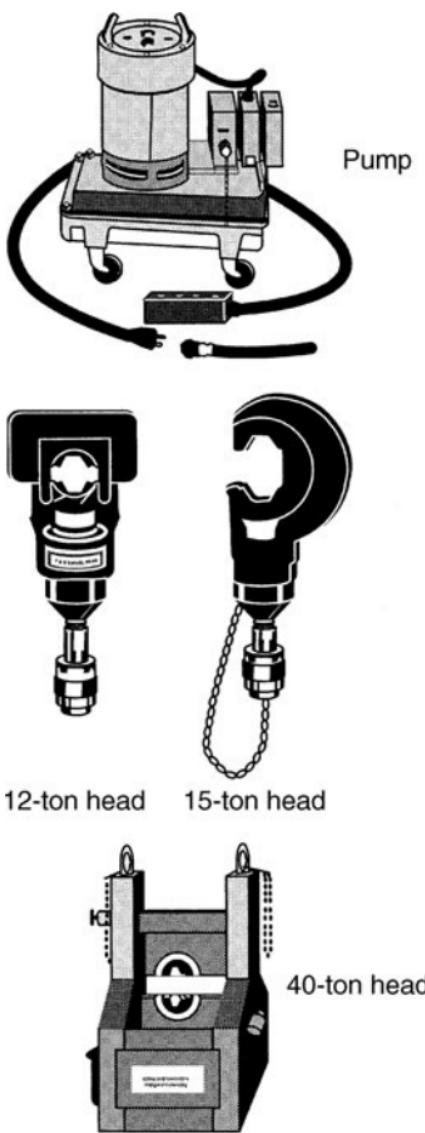

FIGURE 1-7. Aluminum connector tool.
Hydraulic pumps for aluminum connector tools come in many sizes. Figure 1-7 illustrates a typical pump. It weighs only 95 pounds and operates on 120 volts AC. It has a 1-horsepower motor that can pump 115 cubic inches of hydraulic fluid per minute at 2500 pounds per square inch or 57 cubic inches per minute at 10,000 pounds per square inch. Foot- and hand-operated switches are used to control the motor, which, in turn, drives the pump. The high pressure generated provides the force to crimp the aluminum cable.
The heads are the tools that actually do the work of compressing the cable and lugs to make good, tight fits. Heads are available in different sizes to fit the requirements of particular jobs. They are identified by the amount of pressure they are able to exert on a connection. Three common types of heads are shown in Figure 1-7.
The 12-ton head, shown in Figure 1-7, is made from forged steel. It weighs  $7\frac{1}{2}$  pounds. When in use, it can apply 12 tons of pressure, or 24,000 pounds per square inch. The dies that fit into the head are color-coded to match color-coded connectors. A 12-ton head installs aluminum lugs and splices wire from 12 to 750 MCM.
**Fifteen-Ton Head.** The 15-ton head can apply 30,000 pounds per square inch of pressure. It is used to install aluminum lugs, taps, and splices for #12 AWG to 1000 MCM. The 15-ton head shown in Figure 1-7, weighs  $15\frac{1}{2}$  pounds and can be operated up to 100 feet from the electric hydraulic pump. Compression dies are available in two types: one that fits directly into the head and is used for large cables; and one that is used in combination with an adaptor for small conductors. All dies are color-coded to match the color-coded connectors.